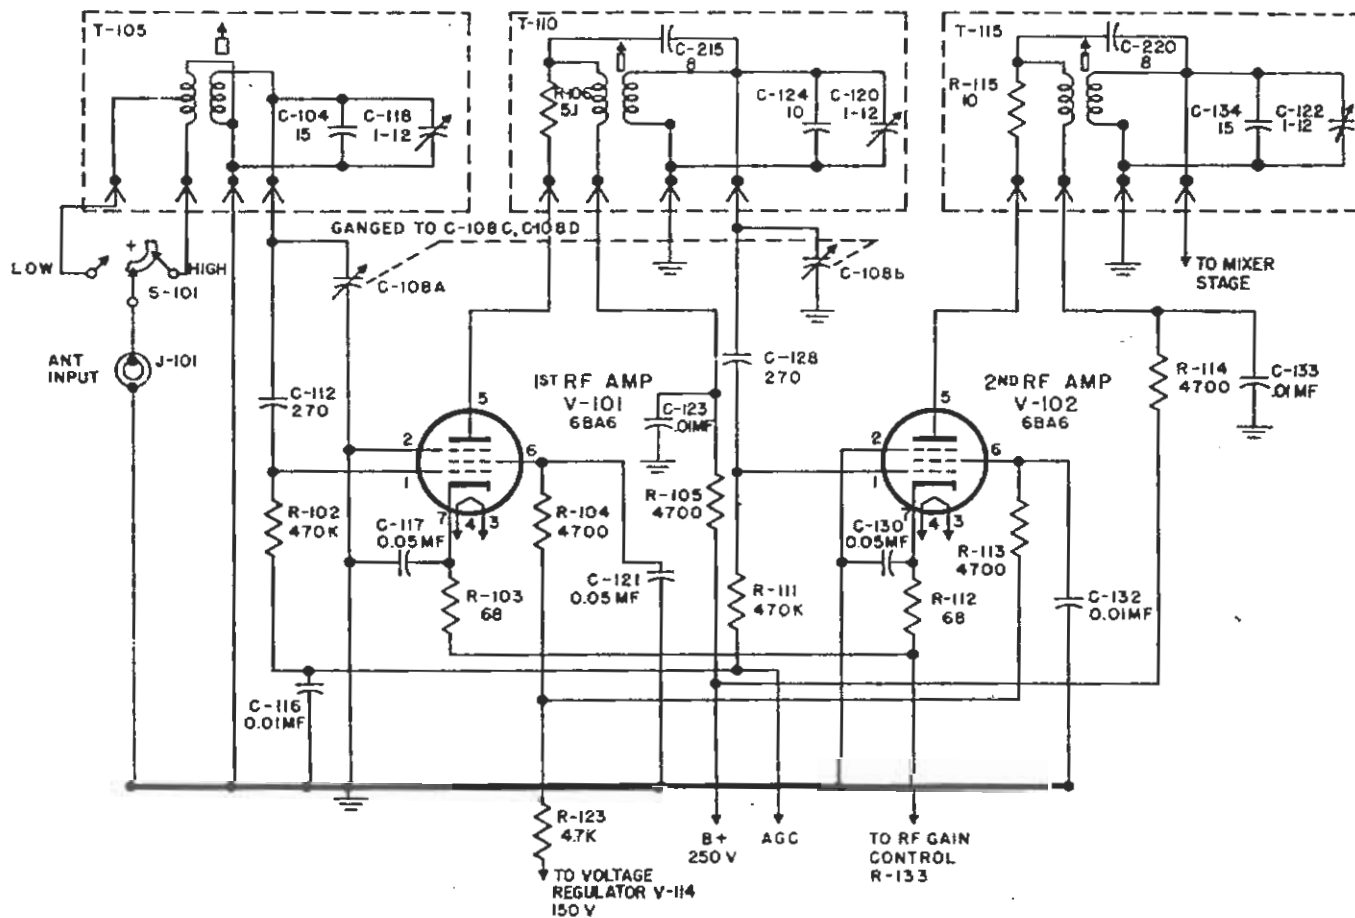

Figure 2-2. RF Amplifier Circuits.
To facilitate analysis of the electrical circuits of the equipment, a functional block diagram (figure 2-1) showing the signal path is provided. In addition simplified schematic diagrams (figures 2-2 through 2-13) are included in the text where they are required for thorough analysis of the circuits.
(1) GENERAL.—The RF amplifier stages consist of two remote cut-off pentode tubes, V-101 and V-102.
(2) RF AMPLIFIER STAGES. (See figure 2-2.)